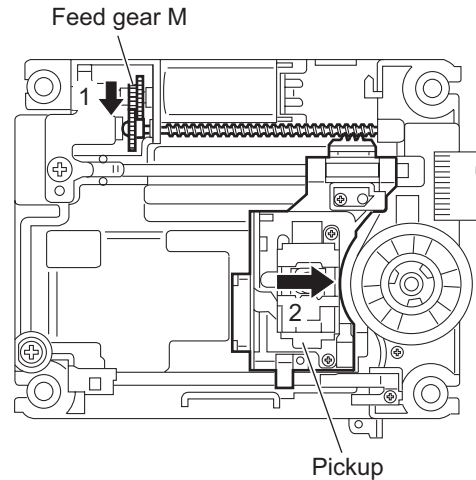

Fig.10
- (5) Turn the feed gear **M** in the direction of the arrow **1** to move the pickup in the direction of the arrow **2**. (See Fig.10.)